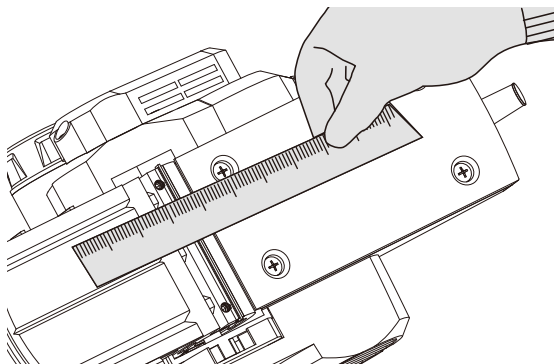

Figure 9-3
6) After the blades are replaced, use a ruler to check if the blades are paralleled with the rear base plate. If not, you can adjust the blades with a hexagonal wrench (not supplied). Firstly loosen the three screws on the blade clamp. Turn the socket head screw clockwise, the blade will be risen. Turn it anticlockwise, the blade will be lowered down. Finally retighten the three screws fully (see Fig. 9-3 & 9-4).